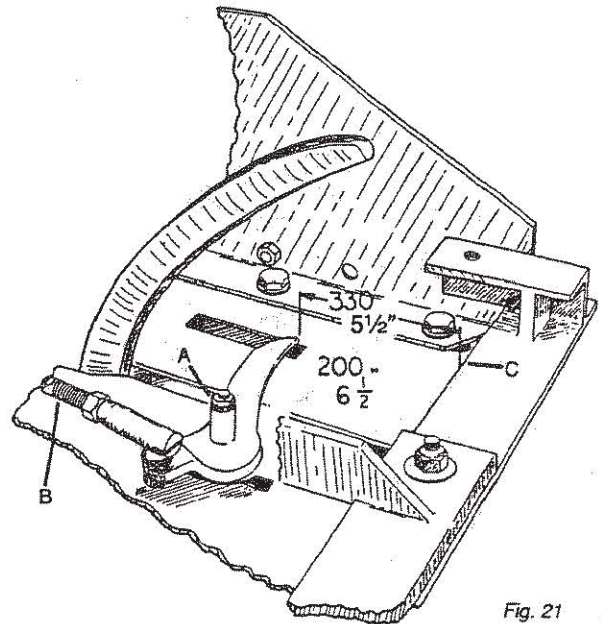

Fig. 21
This adjustment is made by loosening the twine finger anchor bolts and sliding them to the front or back in the slotted holes in the bale chamber top "A," Fig. 21.
b. Continue to turn the flywheel counterclockwise until the twine fingers reach the far point of their travel. Measure the distance from the tip of the twine fingers back to the knotter support angle "C," Fig. 21. This measurement should be $6\frac{1}{2}$ " on the model 200 and $5\frac{1}{2}$ " on the model 330. This adjustment is made by lengthening or shortening the twine finger drive rods "B," Fig. 21.